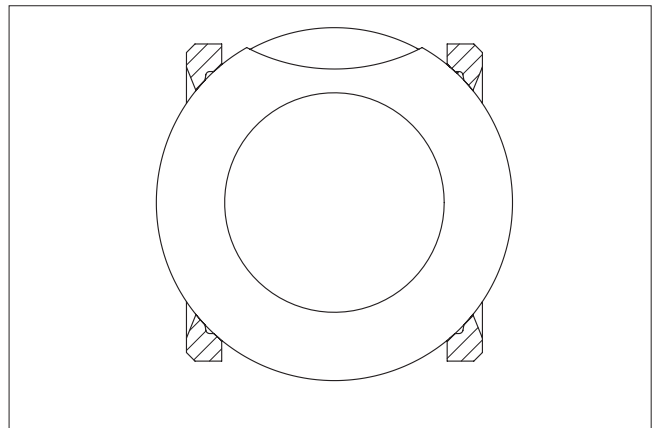

Figure 4. Seats should be in this position at Assembly
3. Clamp the valve body (1) lightly but securely in a vise.
4. Apply grease, MolyKote III or equivalent to both seats. Drop one seat (5) into valve body (1) with flat surface on the bottom. See **Figure 4** for proper seat orientation.
5. Insert, from the inside, a stem bearing (8), a sec. stem seal (13), and another stem bearing (8) into the lower stem bore of the body.
6. Insert the stem (4) through the open end of the body (1), being careful not to scratch the stem bearings and stem bearing surfaces. Press it gently up into the stem hole.
7. Holding the stem in place from inside the valve, install two stem seals (7), the compression ring (18), and thread on the stem nut (19) until the stem starts to turn.
8. Place a wrench through the body on the bottom of the stem blade to hold the stem stationary. Place another wrench on the stem nut (19), and turn the nut down until the seals bottom and the stem comes snugly in place. Tighten the stem nut (19) until snug, plus an additional 1/4 - 1/2 turn. Also see **Table 3**.
9. Align the stem blade inside the valve body (1) with the ball (3). Insert the ball (3) and rotate the stem (4) to the ball fully closed position.
10. Insert second greased seat (5) into the body (1) so that the sealing surface of the seat is towards the ball. Insert the body seal (6). See **Figure 4** for proper seat orientation.
11. Insert the body cap (2), screw it down and tighten to the required torque (see **Table 2 for Body Cap Torque specifications**).
12. Place the handle (15) and handle nut (16) over the stem (4). Tighten the handle nut (16) until snug.